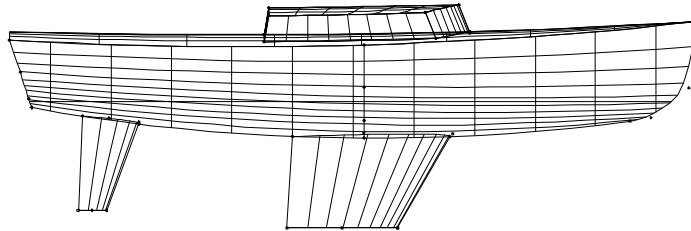

Fig. 6
- 9 There are no name conflicts in the Resolving Names, but you will need the prefix **Keel**; **<OK>** (see Fig. 6, in Rudder section).
- 5 There are no name conflicts in the Resolving Names, but type in the prefix **r** anyway; **<OK>** (Fig. 6).